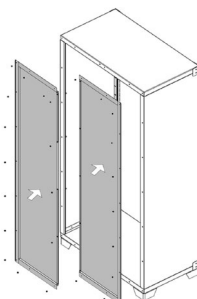

Figure 5.
6. Install left back panel (#12), then the right back panel (#13). Secure each with M4 x 10 screws (#8) along the sides, top and bottom (Fig. 5).